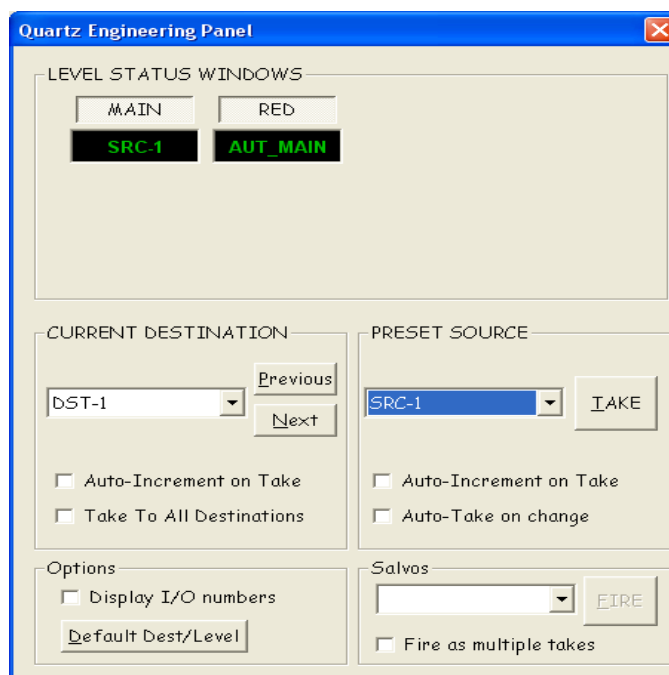

Figure 1: Level Status Window
- The status of the output will be displayed under "Level Status Window". Shown in Figure1 below: